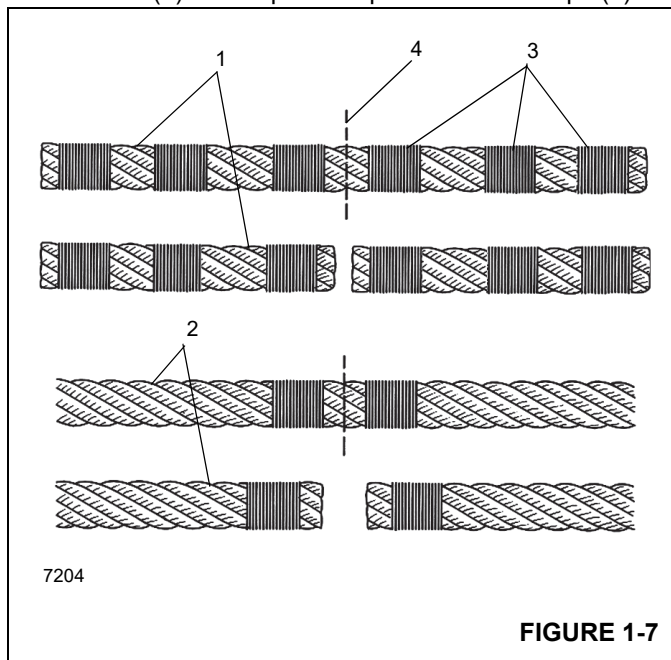

FIGURE 1-7
NOTE: Non-preformed wire rope (1) (Figure 1-7) should have three seizings (3) located on each side of the cut (4) as compared to preformed wire rope (2).